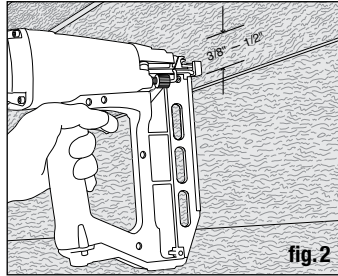

fig.2
- Nails must be inserted 3/8" to 1/2" above the bottom edge of the board (fig. 2).